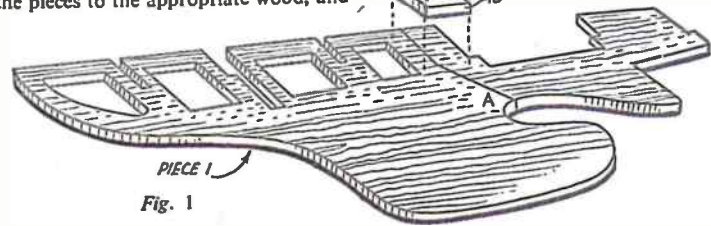

Fig. 1
cut out with a fretsaw. The keel (1) is made up in two pieces, and joined together at A. Lay the two pieces flat as in Fig. 1, then glue them together and pin two pieces 1B on either side of the join, as shown. The exact positions of these two pieces are indicated by dotted lines on the keel. When the glue is completely dry, bore a hole through with a fretwork drill to take the helm. Note that it is essential to do this at this particular stage.